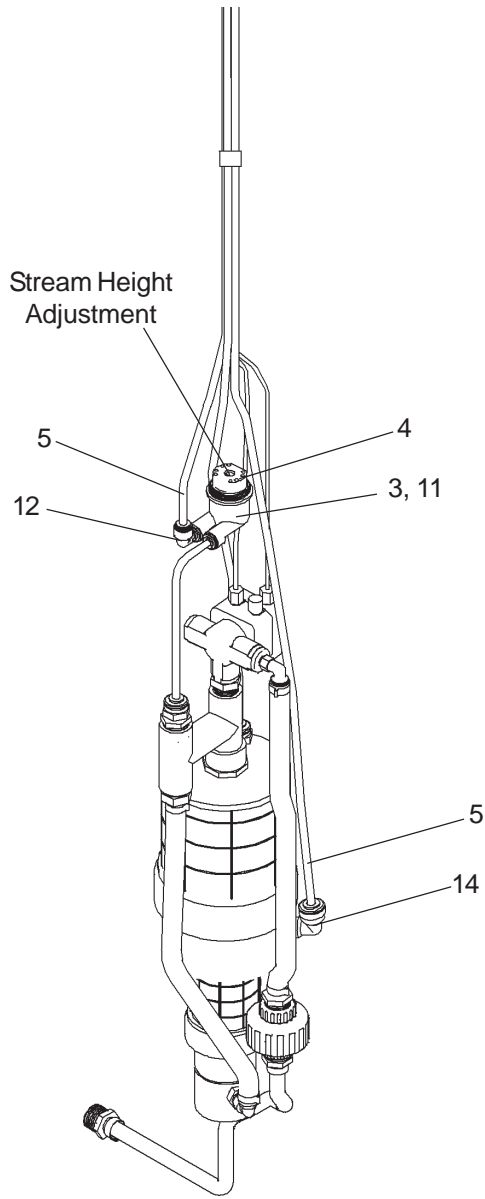

FIG. 4
- Remove the cleanout plug from the PVC column. Remove the valve assembly from the PVC column by carefully pulling up on the strap and connecting tubing at the same time. Pressure test the valve assembly for leaks. Check stream height from the bubbler. Stream height is factory set at 35 PSI. If supply pressure varies greatly from this, adjust the screw on the regulator (Item 11, Page 10, Fig. 4). Clockwise adjustment will raise stream and counter-clockwise adjustment will lower stream. For best adjustment stream height should be approx. 1-1/2" (38mm) above the bubbler guard. Replace the valve into the PVC column. Make sure the supply hose coils into the bottom of the PVC column without any kinks and double check that the valve is positioned fully at the bottom of the PVC column. Cap the PVC column.